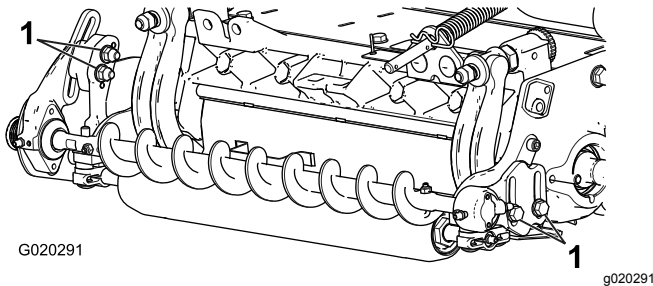

Figure 17
27. Loosen the 2 bolts securing each roller brush bearing housing to the roller brush mounting bracket (Figure 17).